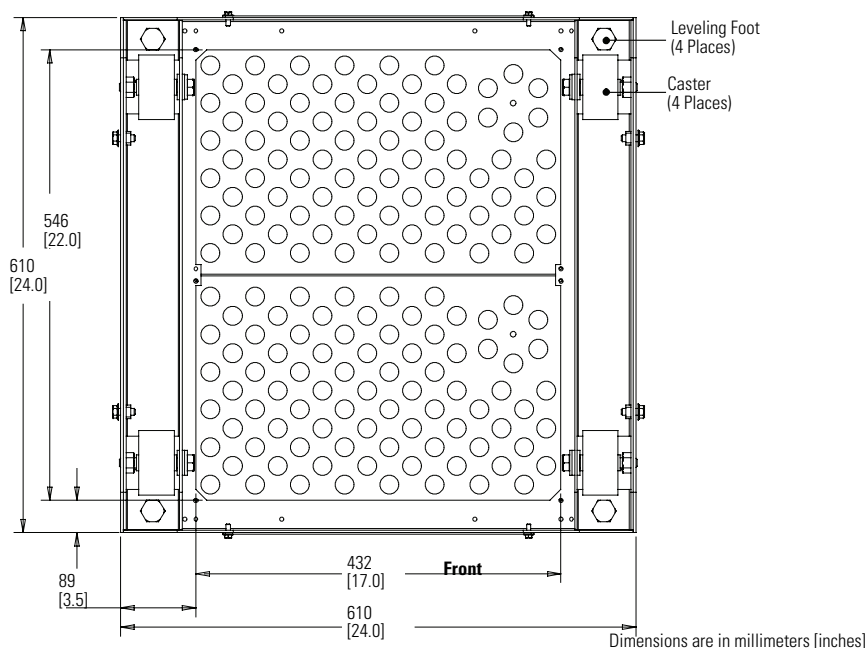
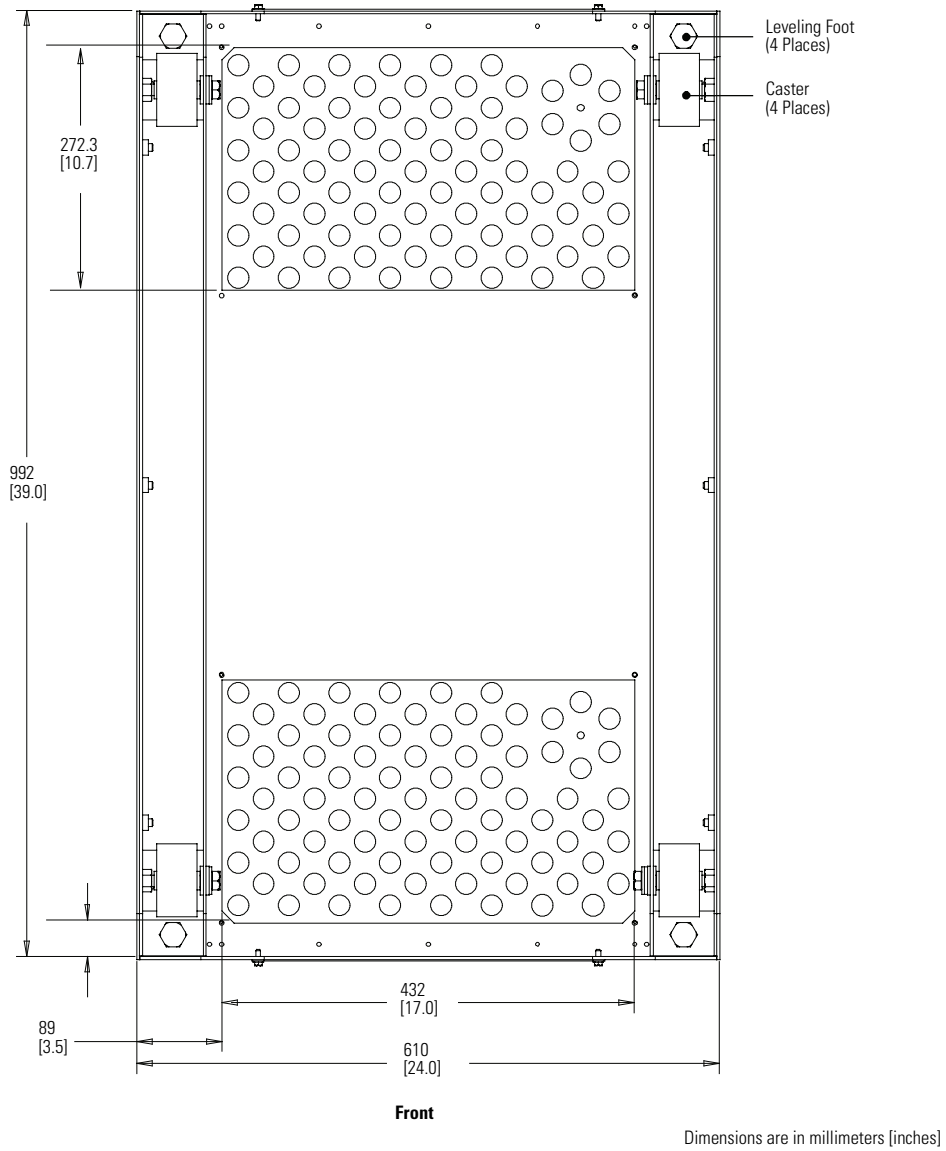

Figure 2. Small RPP Bottom View
Figure 3. Large RPP Bottom View
6. Install a cutout in the floor as needed, using the template shown in Figure 2 or Figure 3.